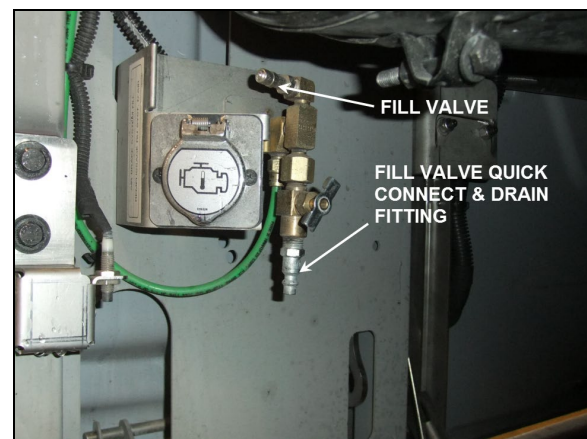

FIGURE 3 : REAR VALVE LOCATION (TYPICAL)
All vehicles come equipped with two emergency fill valves that enable system pressurization by an external source such as an air compressor. The rear valve is located in the engine compartment and is accessible from engine R.H. side door (Fig 3). It is positioned close to the door opening.
The air dryer may be purged for maintenance purposes using the air brake fill valve located in the engine compartment and accessible through the engine compartment R.H. side door. The valve is positioned close to the L.H. side of door opening (Figure 3).
1. Release air dryer pressure by opening the air dryer drain valve (Figure 3).